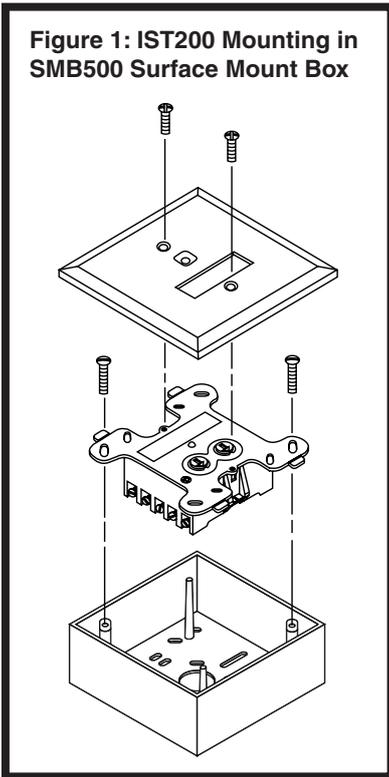

**Figure 1: IST200 Mounting in SMB500 Surface Mount Box**
The IST200 mounts directly to a 100mm square electrical box with a minimum depth of 54mm, such as the SMB500 as shown in Figure 1.
3. Secure translator to SMB500 mounting box as shown in Figure 1.
El IST200 se monta directamente en una caja de conexiones cuadrada de 100mm de ancho x 54mm de fondo, como la SMB500 ilustrada en la fig. 1.